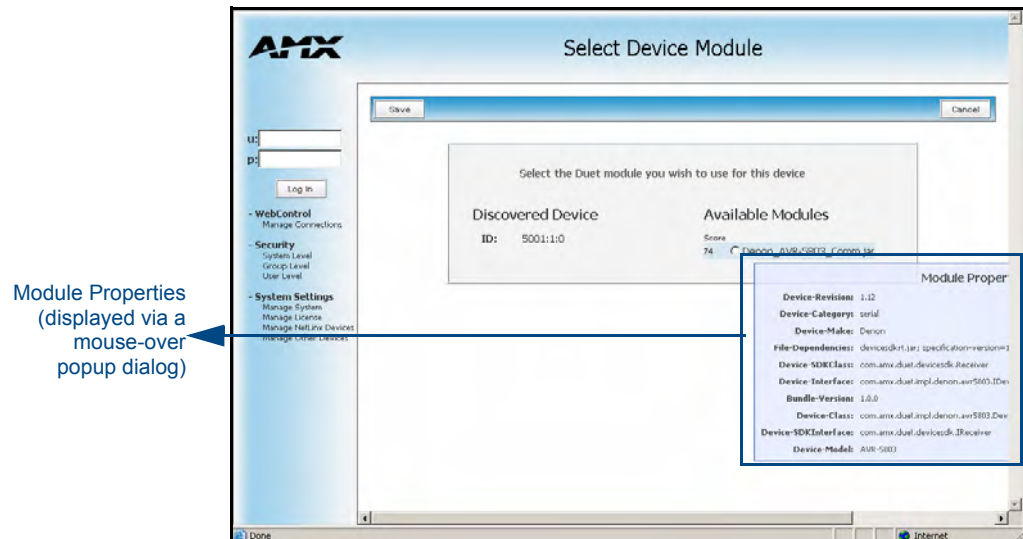

FIG. 69 Select Device Module page
Once a list of all compatible modules is compiled, the Select Device Module page (FIG. 69) is then displayed with a listing of each module along with its calculated “match” value. The greater the “match” value, the better the match between the Duet Module's properties and the physical device's properties.
- Any available modules on either the amx.com, AMX's partner website, or within the physical device itself are downloaded to the Master and then displayed back within the Select Device Module page (FIG. 69 on page 107). The discovered device is then shown with an adjacent listing of available modules ranked with associated "match" score.